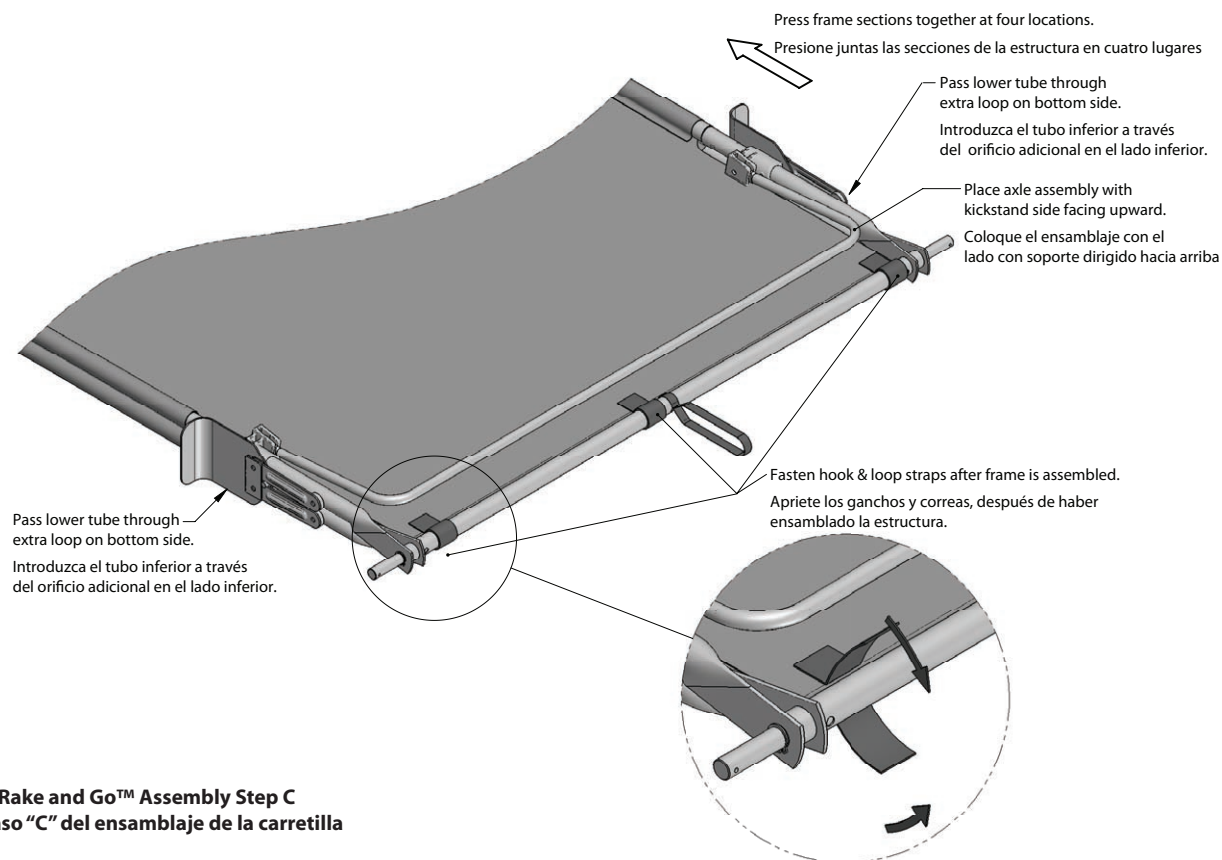

Figure 3: Rake and Go™ Assembly Step C
C) Attach Axle Assembly: Lay Axle Assembly along bottom edge of Fabric Assembly as shown in Figure 3. Insert an Axle Tube into a corresponding Frame Tube. Press and twist until the spring clip clicks into alignment. Repeat this step for each loop—four locations. Wrap Hook-and-Loop straps around axle while applying tension in the fabric. Press hook and loop sections together to fasten. Repeat this for each strap—three locations.